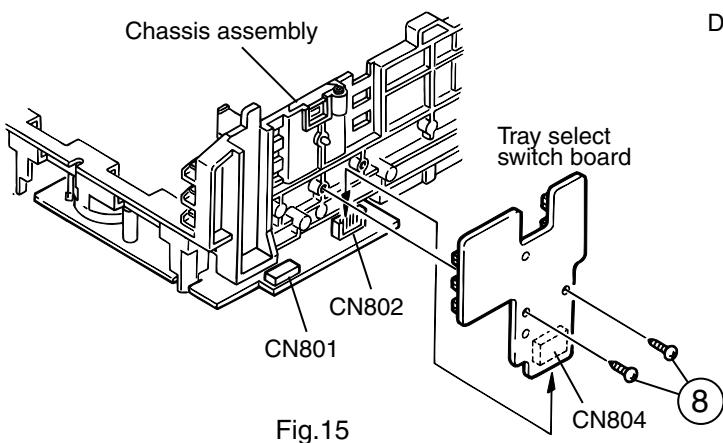

Fig.15
- Remove the two screws 8 retaining the tray select switch board(See Fig.15).
■ Removing the can unit (See Fig.15~18)
- While turning the cam gear L, align the pawl "N" position of the drive unit to the notch position(Fig.15) on the cam gear L.